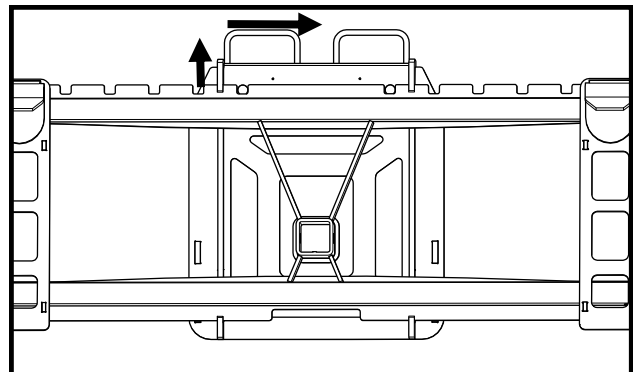

Fig. 8.4—Slide Mounting Frame onto Fork Frame
- 8.4 Pull the mounting frame up and slide it to the center of the pallet fork frame. **WATCH FOR PINCH POINTS AS YOU SLIDE THE FRAME ON.** See Fig 8.4